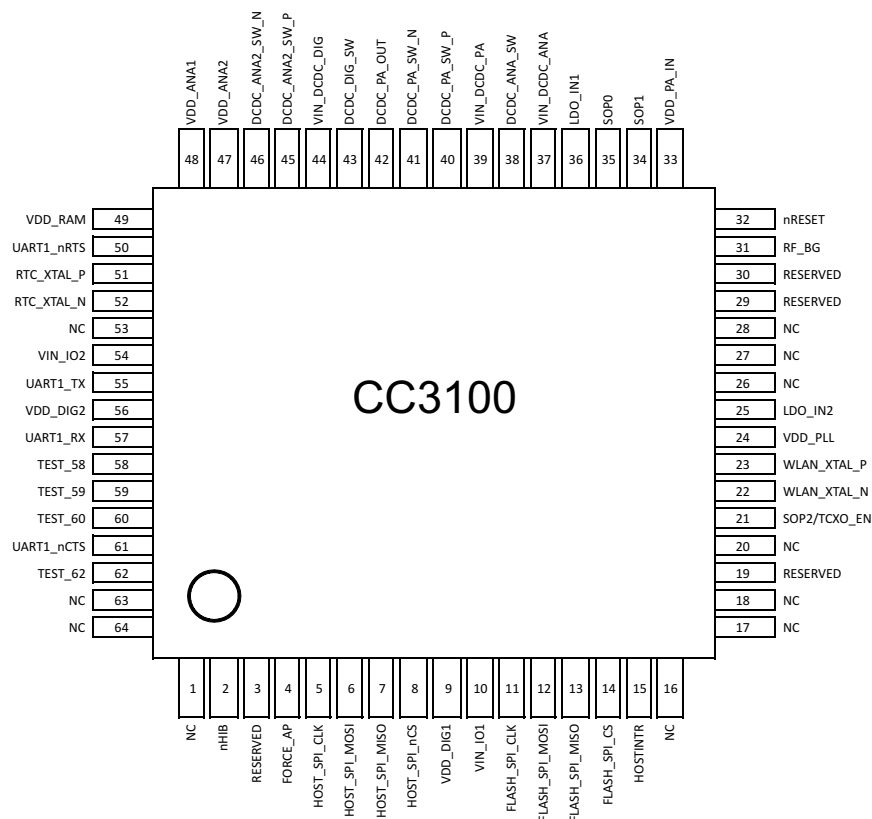

Figure 3-1. QFN 64-Pin Assignments (Top View)
• Changed pin 19 from NC and pin 18 from reserved in <a href="#">Figure 3-1</a> .....	5
Figure 3-1 shows pin assignments for the 64-pin QFN package.